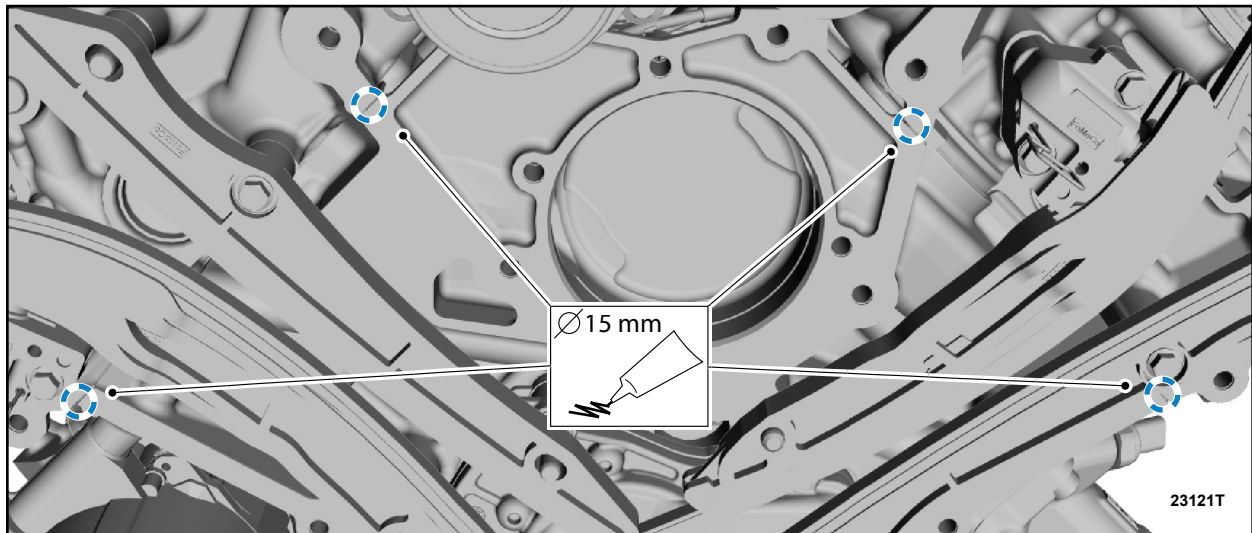

FIGURE 17
31. Using Motorcraft® Silicone Gasket and Sealant / TA-30 (WSE-M4G323-A4) apply 0.59 in (15 mm) diameter drops of silicone gasket and sealant to the cylinder head-to-cylinder block joints. See Figure 17.